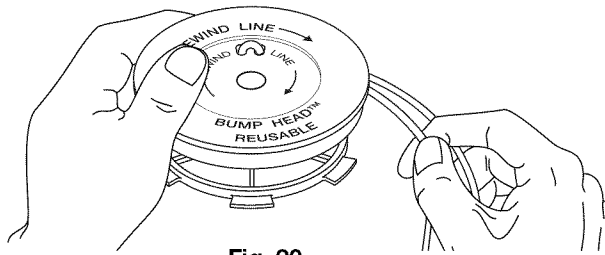

Fig. 20
- Wind the lines in tight even layers, onto the reel (Fig. 20). Wind the line in the direction indicated on the inner reel. Place your index finger between the two lines to stop the lines from overlapping. Do not overlap the ends of the line. Proceed to step 11.